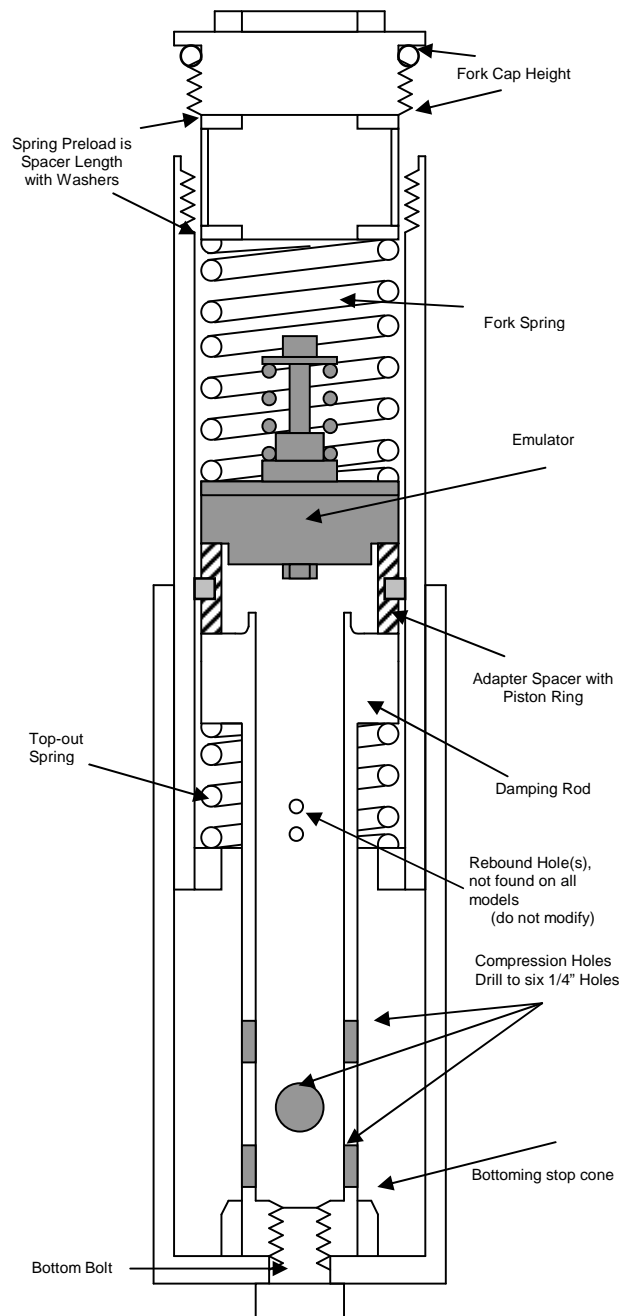

Figure 1
- 2 Drill the existing compression holes in the damping rod to 1/4 inch (6 mm) so you end up with Six holes (3 sets of 2 holes) (figure 1).** When drilling new holes, space them axially (lengthwise) at 10 mm (7/16") increments. Each set of two holes must be perpendicular to the last set so as not to weaken the rod (figure 1). After drilling, chamfer and deburr the compression holes, inside and out. **Do not add or enlarge the rebound holes and leave their edges sharp.**
- a. Drop the Emulator down the tube. It sits on top of the adapter spacer & damping rod with the Emulator Valve Spring facing up and is held in place with the main fork spring. Refer to figure 1. Visually check to make sure the Emulator is sitting squarely on top of the damping rod.
- c. Set the fork cap on the washer and determine the preload by measuring from the top of the fork tube to the sealing lip on the fork cap (see figure 1). This is a direct measurement of fork spring preload. Shorten the spring spacer tube to achieve the proper preload.